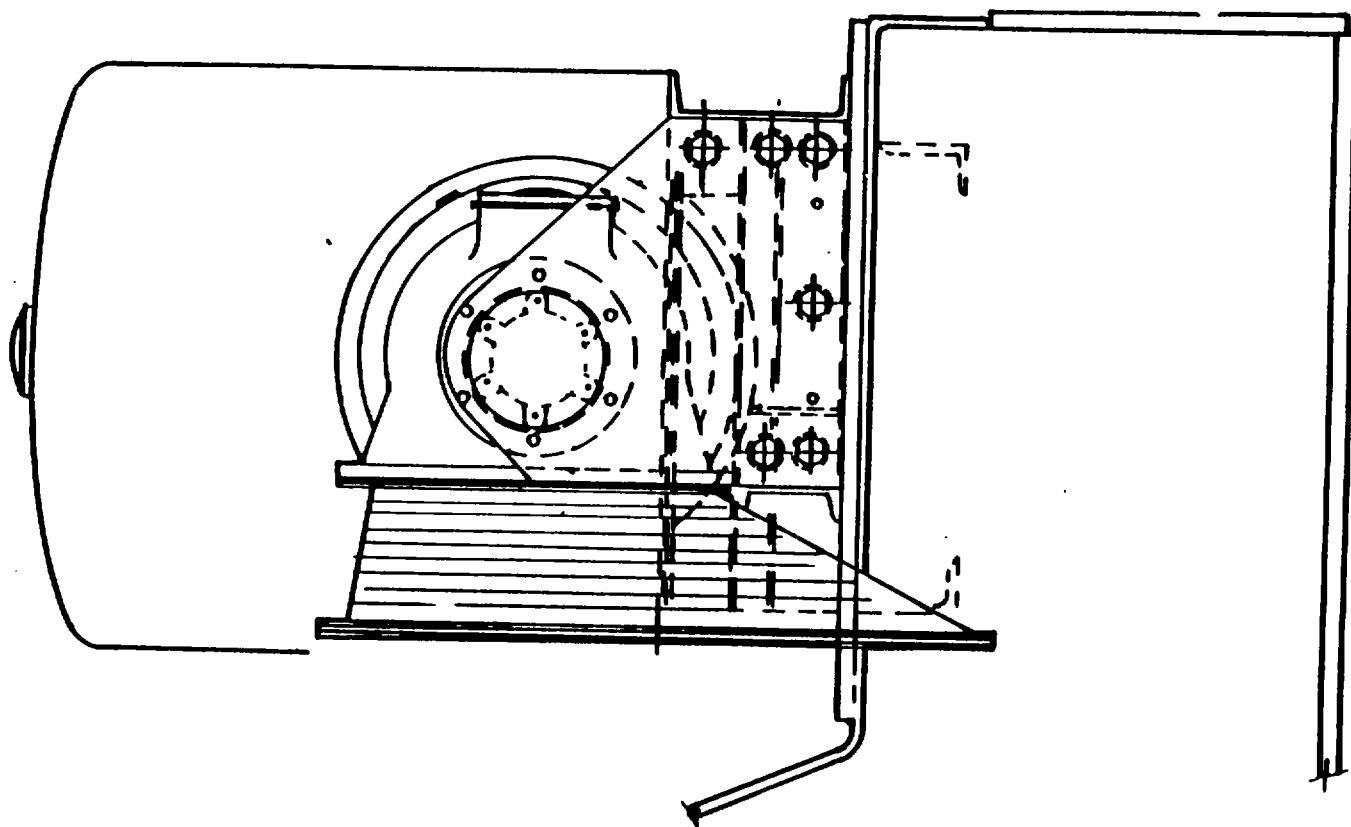

Figure 5-2. Chain Drive Mechanism.
- a. Refer to Figure 5-2 and disassemble chain drive mechanism.